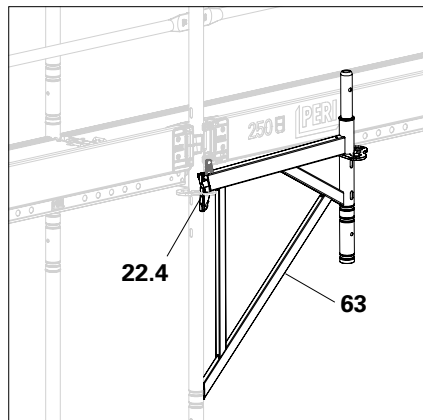

Fig. A6.04
1. Connect the Console Bracket ECM 67 (**63**) or ECM 100 to the rosette (**22.4**) of the Easy Standard EVM or the Top Standard EVT 96 parallel to the scaffold. (Fig. A6.04)